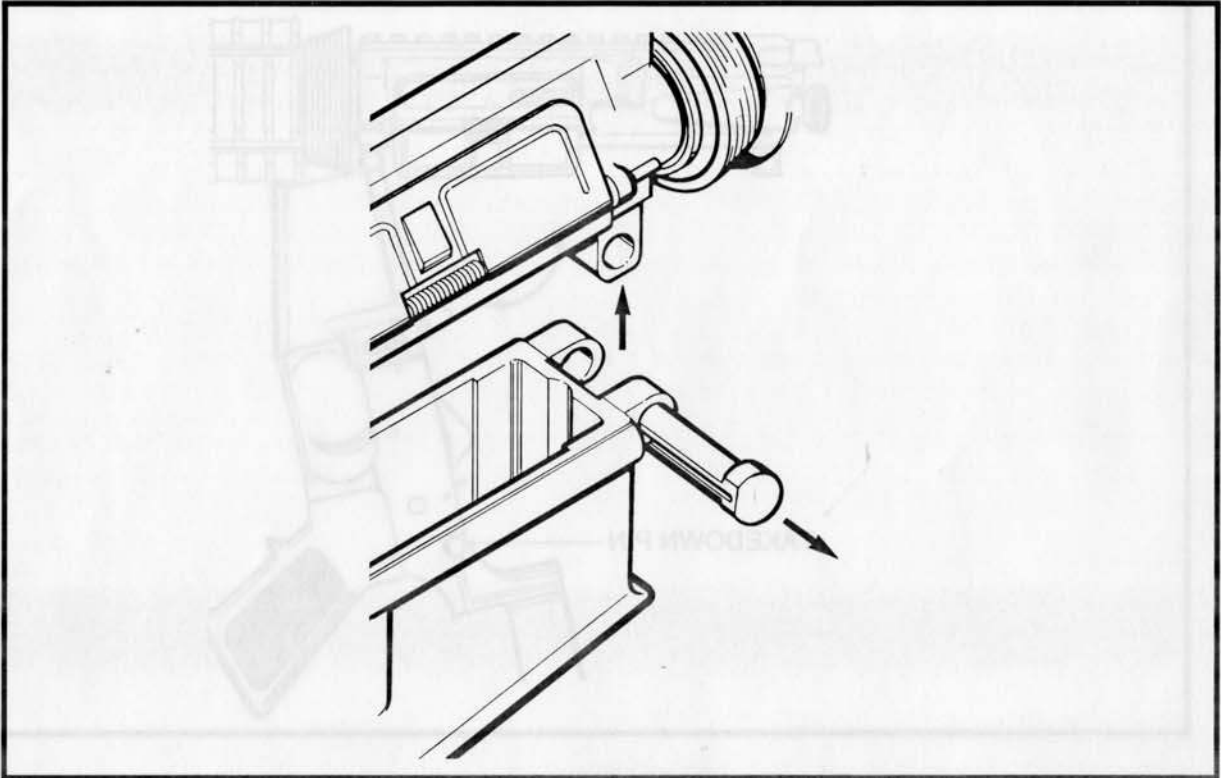

Figure 3-2-7 Separating the Receivers
- g. Separate the upper and lower receivers. See Figure 3-2-7;